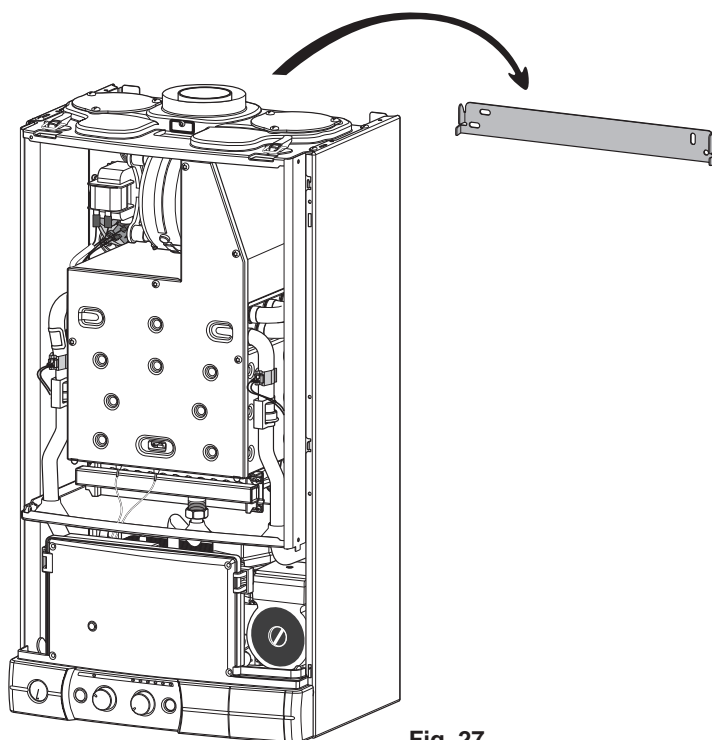

Fig. 27
- offer the water heater up to its bracket and allow it to drop into position while pressing on it (**Fig. 27**)